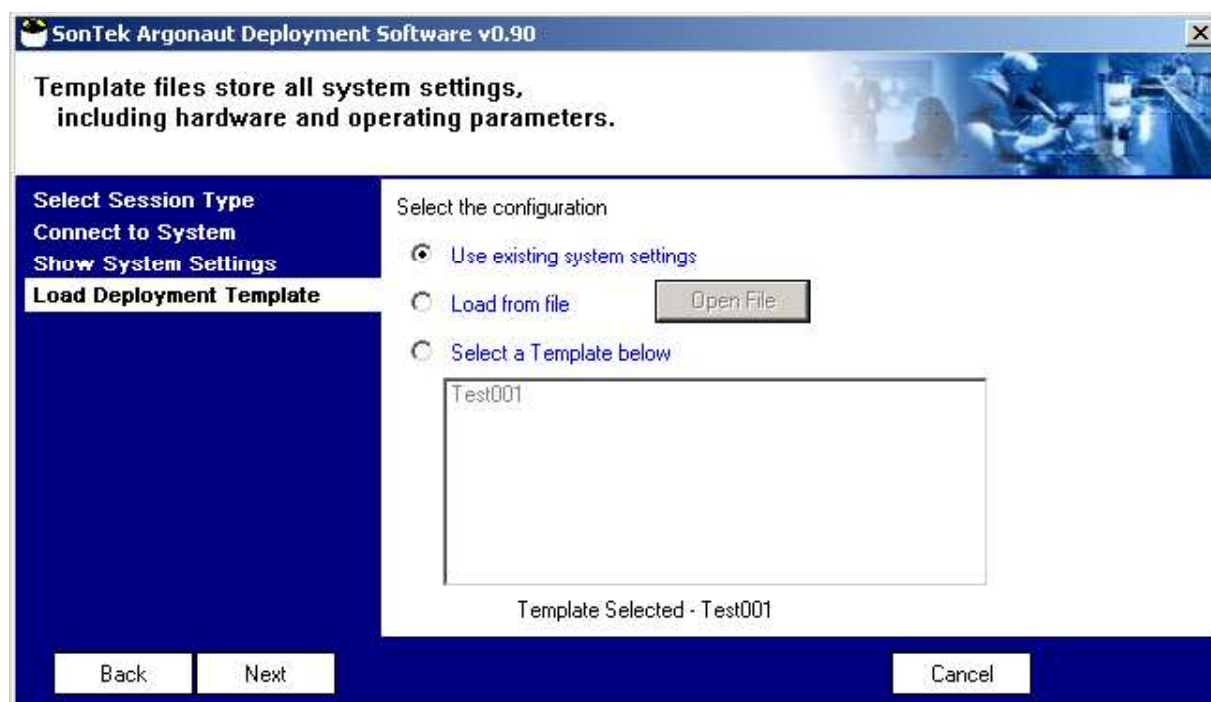

Figure 5-31. Deployment Software: Load Template File or Use Existing Settings
- When connected directly to a system, you can proceed in two ways on the **Load Deployment Template** screen (**Figure 5-31**):